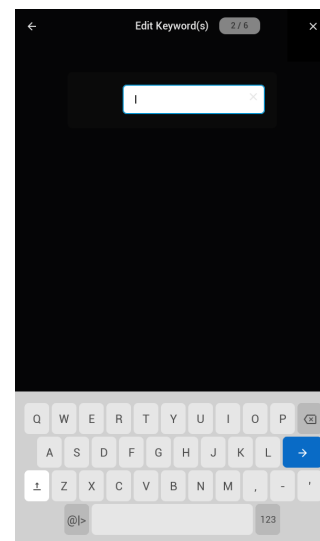

Figure 26: New Recipe Keywords
4. Input keywords for the search option and touch the blue arrow button to continue (Figure 26).